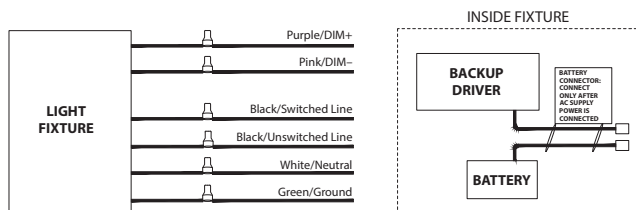

Fig: 14
Voltage could be present in **BATTERY**. To prevent high voltage from being present on output leads, Inverter Connector must be open. Do not join **BATTERY** connector until installation is complete and AC power is supplied to the emergency driver (Fig. 14).
7. After installation is complete, supply AC power to the fixture and connect the **BATTERY** (Fig. 14).